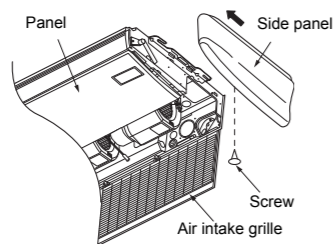

Fig.1
- Remove a screw, move the side panel toward you (direction of arrow), and then remove the side panel. (Fig. 1)